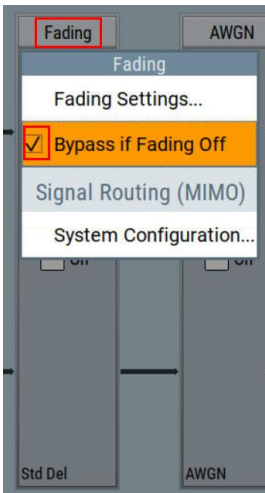

Fig. 7-4 Bypass Fading module if Fading is Off
3. Click on Fading module and check option "**Bypass if Fading Off**". See Fig. 7-4